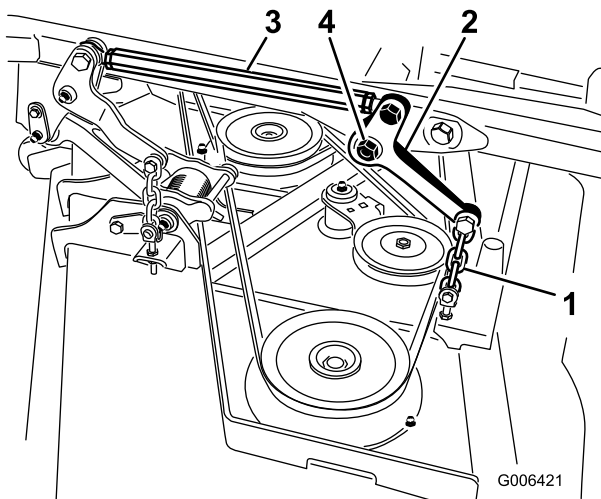

Figure 1
4. Disconnect the lift chains from the rear deck lift arms (Figure 1).
5. Disconnect the link ball joints from the rear lift arms. Pivot the link rods out of the lift arms (Figure 1).
7. Remove the nut and washer from each end of the deck lift shaft (Figure 1). Discard the nuts and washers.
8. Remove the lift arms and the woodruff keys from the shaft (Figure 1). Discard the lift arms but retain the woodruff keys for reuse.
9. Remove the shaft from the carrier frame (Figure 1).
10. Remove and replace the bushings in the carrier frame, if damaged (Figure 1).